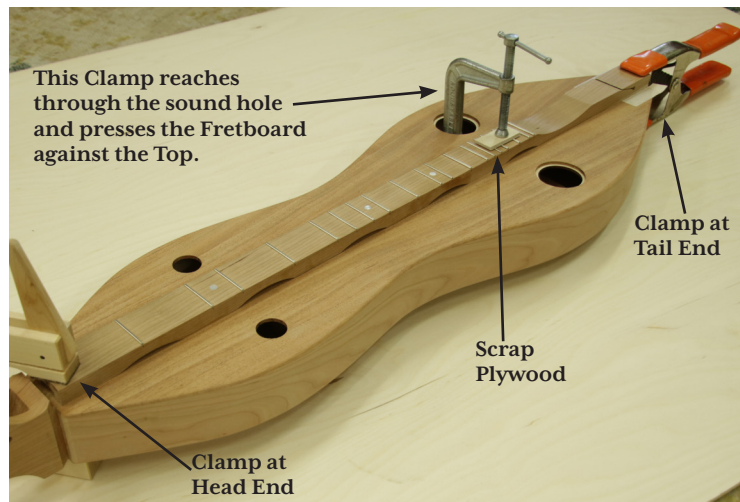

FIG. 21B
**CAUTION:** Do not be tempted to add more clamps to the middle of the fretboard! There will be too much pressure added, and will make the fretboard and top concave. This is all the clamping pressure you will need. (fig. 21b)
When you have everything ready, apply glue to the underside of the fretboard, only on the flat areas that will contact the top of the instrument. (fig. 21a) Then clamp the fretboard in place until dry. If you are using c-clamps, use a scrap piece of plywood to help protect the fretboard while clamping. (fig. 21b)